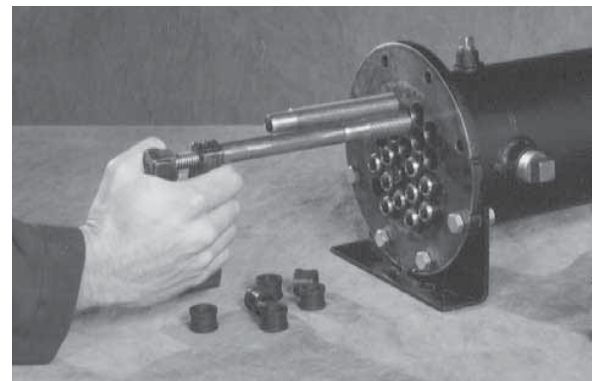

Fig. 3 Short end
6. From the short end, grip the tube with the tube tool. With a twisting motion, pull the tube until the entire tube is removed from the shell. Repeat for each tube (see Fig. 3).